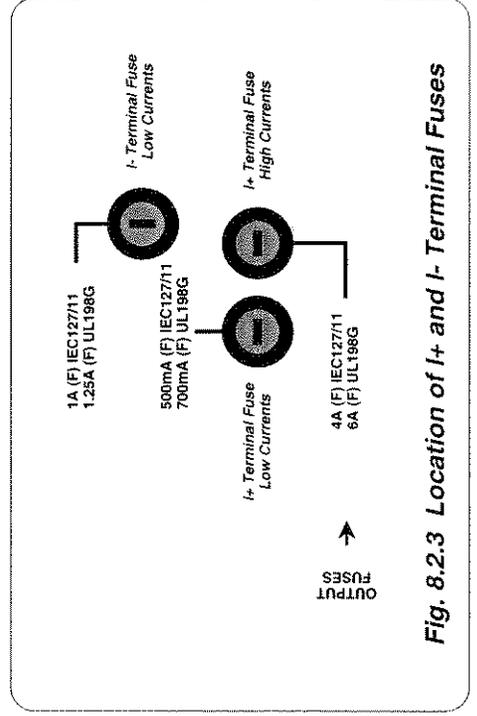

Fig. 8.2.3 Location of I+ and I- Terminal Fuses
The fuses are located at the left front of the top guard shield, beneath the ribbon cable which links to the Interconnection PCB on the rear panel, and protruding through grommets in the guard shield (Fig 8.2.3).
- b. Locate the three bayonet fuse caps (Fig. 8.2.3):
- b. Locate the three bayonet fuse holders (Fig. 8.2.3):